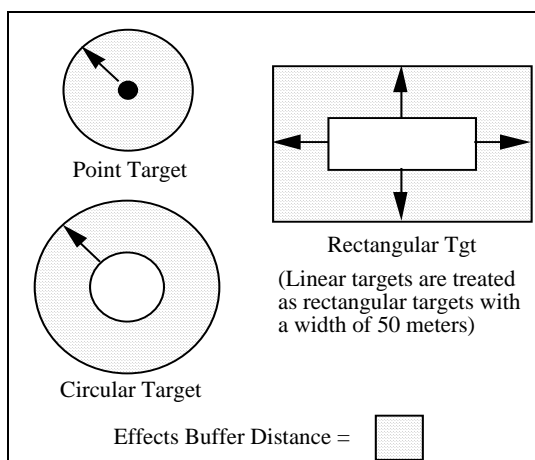

Figure 31. FS System Buffer Distances.
- The Buffer Distance is a width, in meters, surrounding the target which will be considered as though it were part of the target area. In the following illustration, Figure 31, each of the target shapes are shown with a Buffer Distance applied.